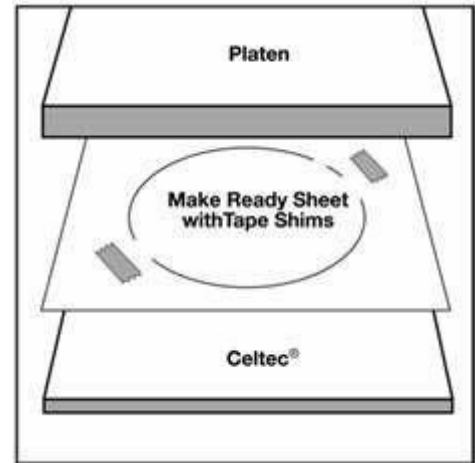

Figure 1i
- When dies include intricate patterns and/or sharp bends, more pressure will be required to make the cut. Additional tape shims to build up the cutting plate may be needed in these areas (Figure 1i).